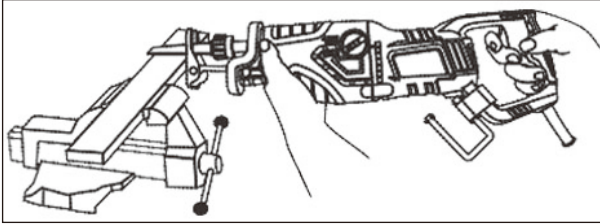

FIG. 5
5. Hold the saw away from your body and in front of you (Fig. 5).